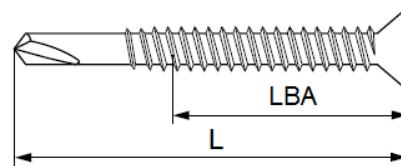

FIGURE 4—DESCRIPTION OF NOMINAL SCREW LENGTH (L) AND LOAD BEARING AREA (LBA)
Screw length and point style must be selected on the basis of thickness of the fastened material and thickness of the supporting steel, respectively, based on the length of load bearing area (see Figure 4) and drilling/piercing capacity given in Table 1.
⁴Refer to Figure 4 for nominal screw length (L) and load bearing area (LBA) description.